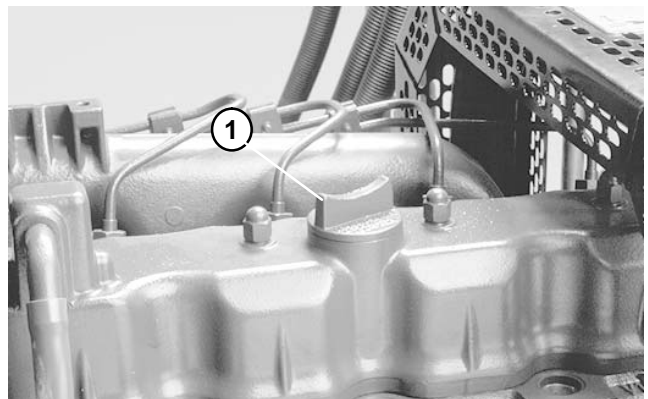

Figure 3
4. If oil is below FULL mark, remove fill cap and add SAE 10W-30 oil until level reaches the FULL mark. **Do not overfill.** Crankcase capacity is 8 qt. (7.6 L) with filter (Fig. 3).